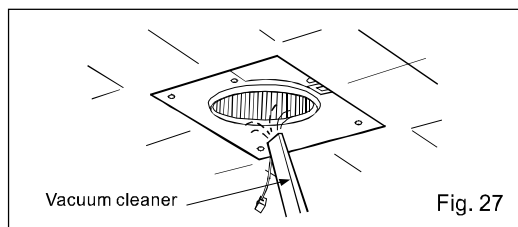

Fig. 27
4. Remove dust and dirt from fan body using a vacuum cleaner. (Fig. 27)